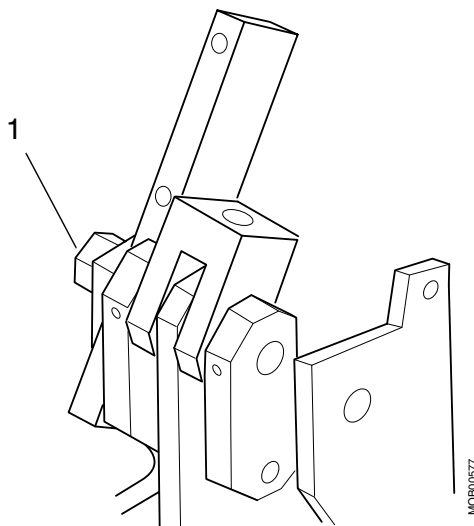

Fig. 38 Mounting lower arm link
5. Carefully fit the left arm support (with lower arm link) on the screw (pos. 1 / Fig. 38).